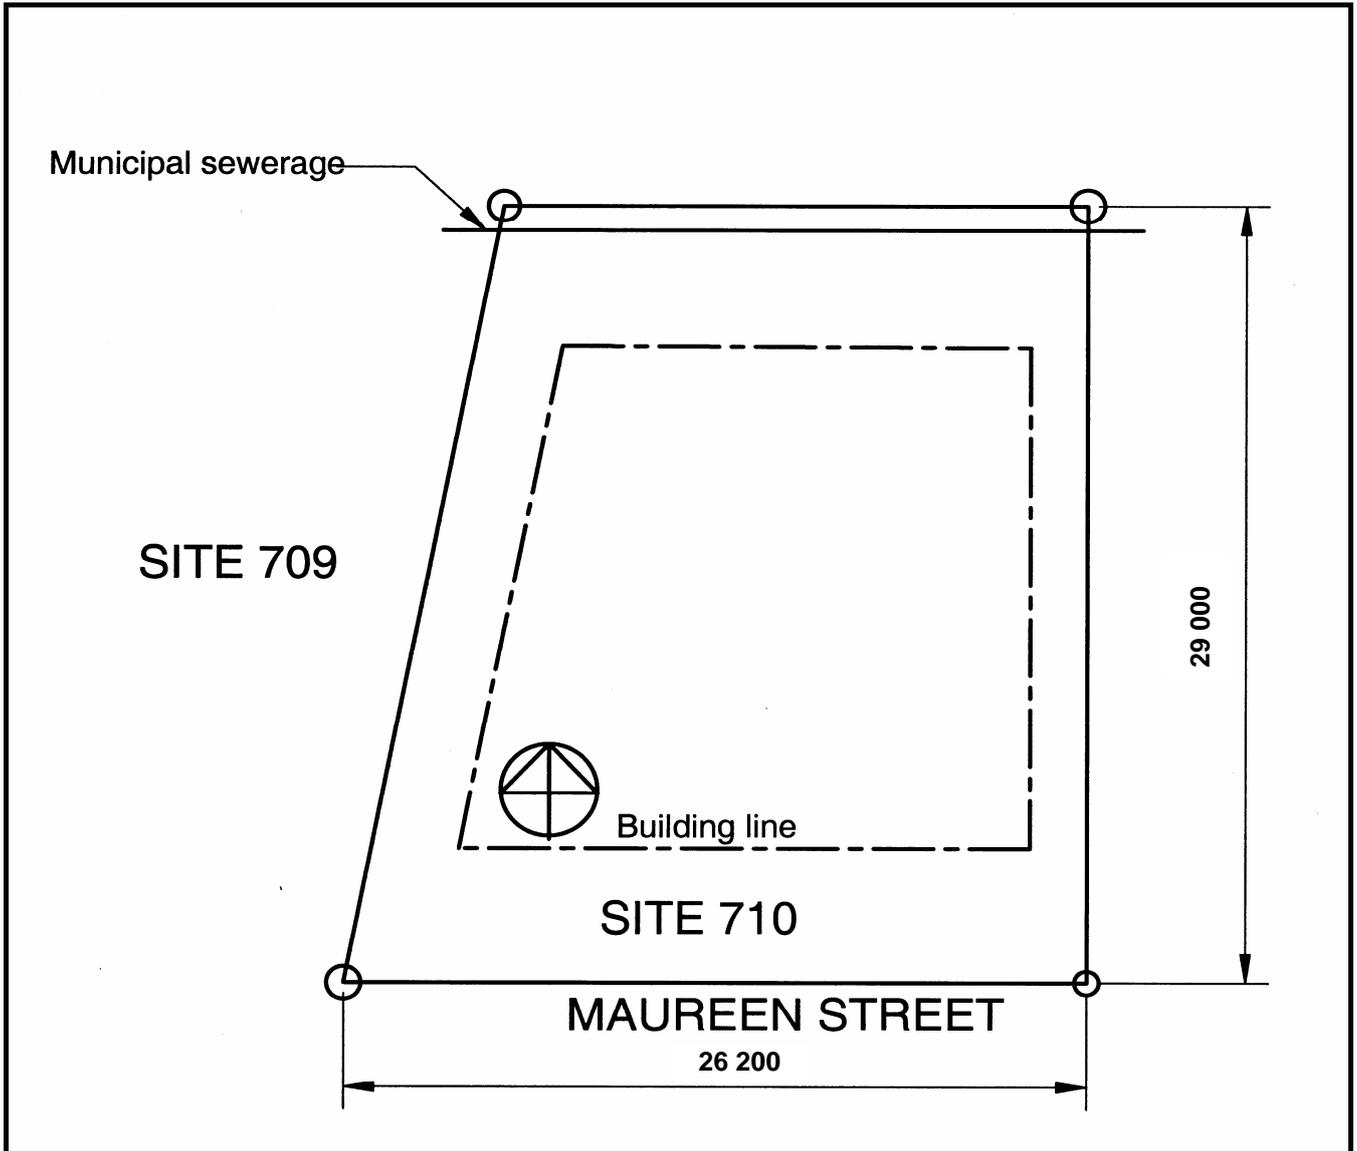

FIGURE 6.3
6.3 FIGURE 6.3 on ANSWER SHEET 6.3 shows the site plan of a building site. Use the floor plan as shown in FIGURE 6.1 and draw it correctly on the site plan.